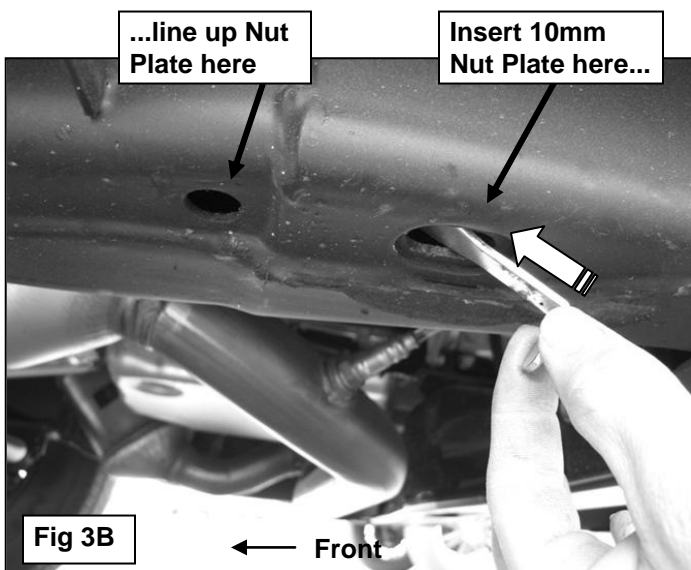

Fig 3B
3. Locate the two factory holes in the bottom of the frame towards the front of the vehicle. Insert (1) 10mm Nut Plate, **(Figure 3A)**, into the oval hole and line up the threaded nut with the forward round hole, **(Figure 3B)**.